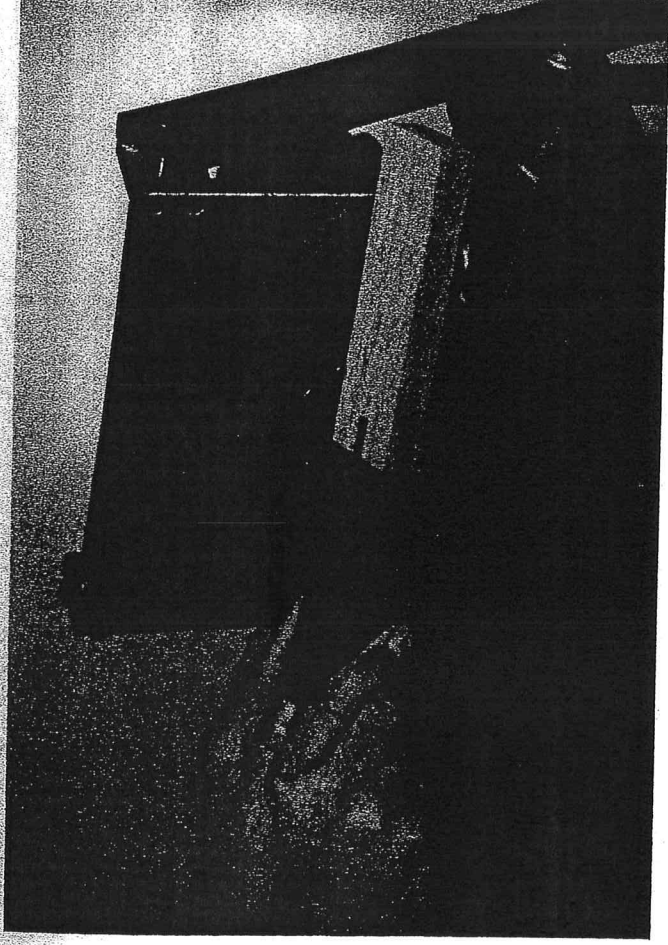

Fig. 15
9. Assemble joint and inspect fit. (fig. 15)